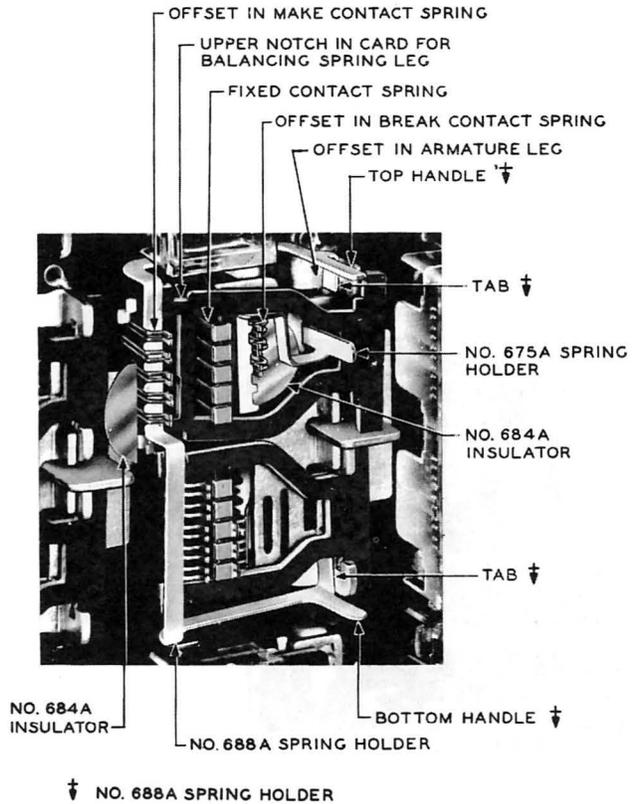

Fig. 7 - No. 688A Spring Holder Mounted on Relay (No. 675A Spring Holder and No. 684A Insulators in Place on Upper Half of Relay)
3.18 The No. 688A and 688B spring holders are used to hold make contact springs of the upper and lower halves of the relay, respectively, during replacement of the associated card. Each of the spring holders has five notches to engage the five pairs of make contact springs with which it may be used. It is important that the pairs of springs are engaged by the proper notches in the holders. Special care is required to engage the pairs of springs in the proper notches if all five positions on the relay are not equipped with these springs. Each of the spring holders has a top and a bottom handle. On the No. 688A spring holder the bottom handle is adjacent to the unnotched section, while on the No. 688B it is adjacent to the notched section. The No. 688A spring holder is shown mounted on the relay in Fig. 7. To mount either the No. 688A or 688B spring holder, proceed as covered in 3.19.
3.19 With the right hand, apply the KS-6320 orange stick to the right side of the card and move the card as far to the left as possible. With the other hand, hold the spring holder by the bottom handle and insert the notched section of the holder between the make contacts so that it touches the card. Swing the handle of the holder to the right and position the notched section behind the make contacts. Release the card. Then, using both hands, grasp the top and bottom handles of the spring holder. Position the holder so that its tab adjacent to the card being replaced is in front of this card and the pairs of make contact springs are engaged in the proper notches. Then, with the springs in the notches, move the holder to the left and position it so that each tab rests against the left side of the adjacent armature leg. Make sure that the notched section of the holder is against the offset in the make contact springs and that the inner edge of each tab is against the offset in the armature legs as shown in Fig. 7.